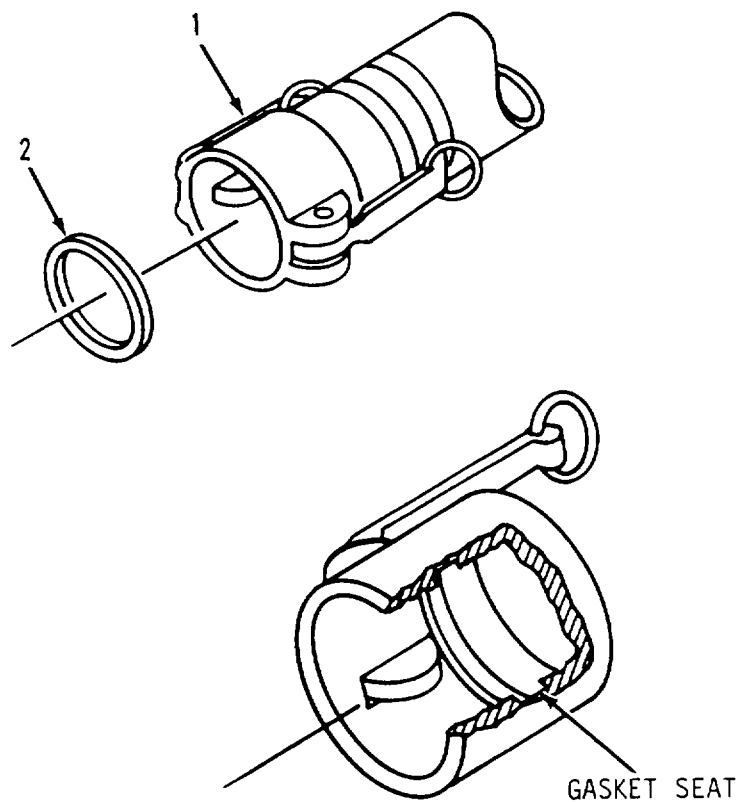

Figure 3-3. Quick Disconnect Repair.
a. Removal. Refer to figure 3-3.
- (1) Disconnect female coupling (1) from water system (para 2-11d).
- (2) Pull gasket (2) from interior of female coupling (1).
b. Installation. Refer to figure 3-3.
- (1) Using clean wiping rag, remove grit, sand, and dirt from gasket seat inside female coupling (1).
- (2) Position replacement gasket (2) in female coupling (1).
- (3) Press gasket (2) into gasket seat inside female coupling (1) There will be no ripples or bumps in gasket material when gasket is properly installed.
- (4) Connect female coupling (1) to water system (para. 2-1 Id).
- (5) Startup water system (para 2-13c) and test female coupling (1) for leaks.